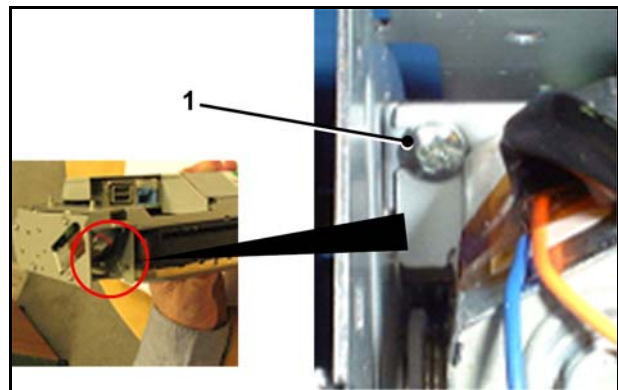

Figure 9
11. Loosen the M2 screw (1) (see Figure 9).